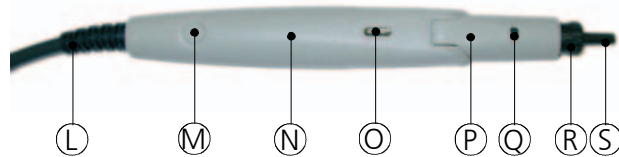
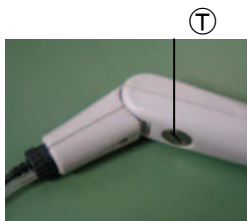

Figure 8 RaceCar probe with standard screening probe tip
Figure 9
The probe of the Race Car Tympanometer is shown in figure 8. The probe head is adjustable in three steps (0°, 60° and 80°). It is adjusted by releasing the fixation screw (Figure 9 ①) at the bottom of the probe, using a coin or a screw driver. Adjust the probe head ② by pulling it into the required position until it rests. To do this hold the probe handle ③ with the other hand. After it is set to the required position fasten the fixation screw ④ again.